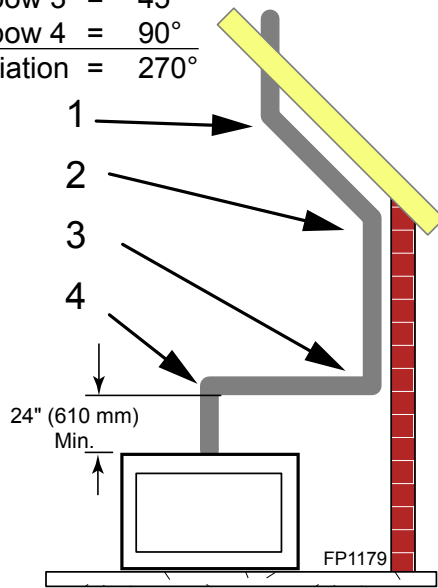

Figure 22 - Maximum Elbow Usage
- Two sets of 45°elbows offsets may be used within the vertical sections. From 0 to a maximum of 8' (2.5 m) of vent pipe can be used between elbows. *Figure 22*
- The maximum angular variation allowed in the system is 270°. *Figure 22*